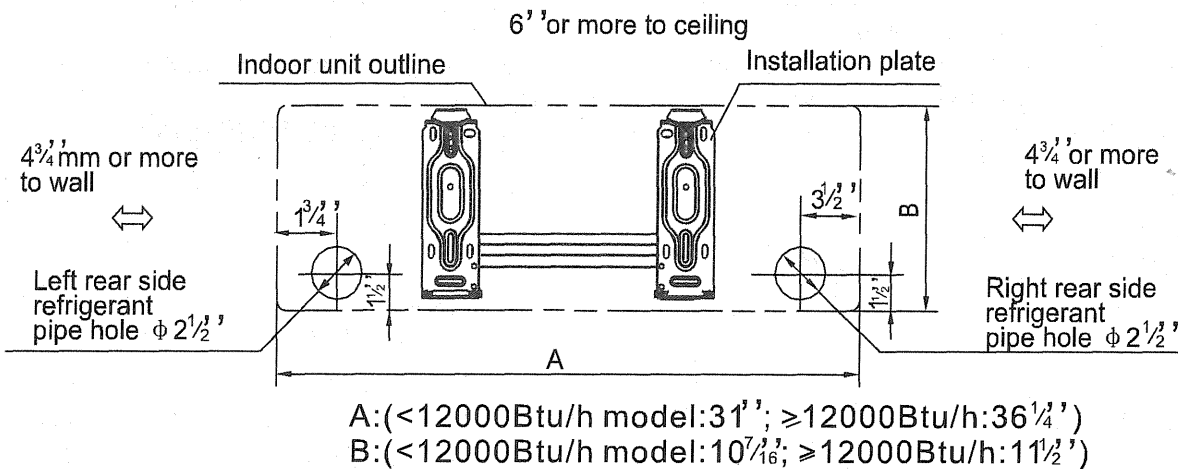

Fig.5
1. Determine hole positions according to the diagram detailed in Fig.5. Drill one (1) hole ( $\phi 2\frac{1}{2}$ ') slanting slightly to outdoor side.